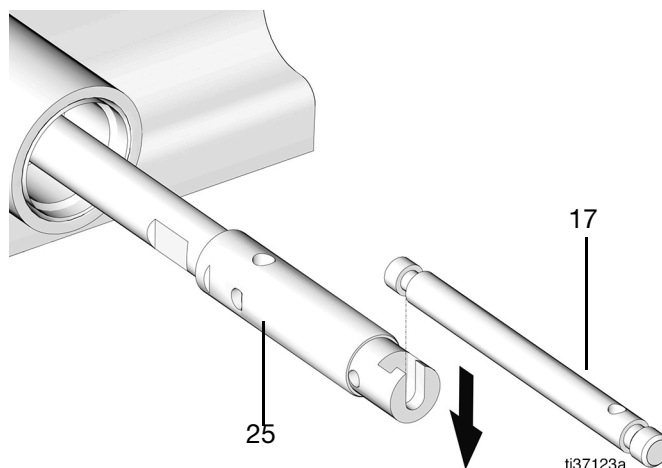

FIG. 60
- Place the shovel rod (17) into the pump piston (25) groove (FIG. 60).